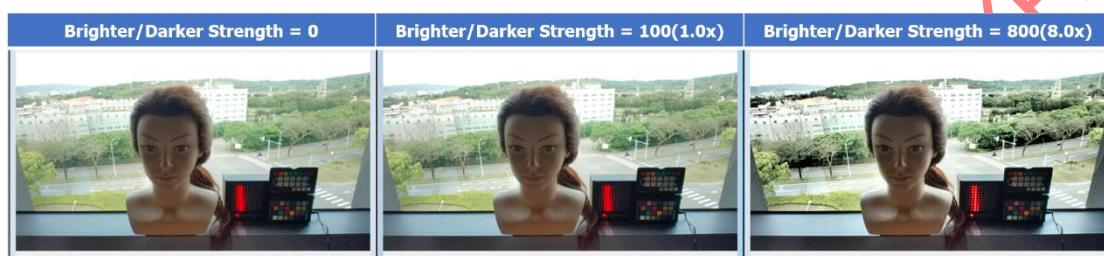

Fig. 5-148 Different Brighter/Darker Strength
- The strength to make local bright/dark area brighter/darker, to enhance local contrast. (Fig. 5-148)